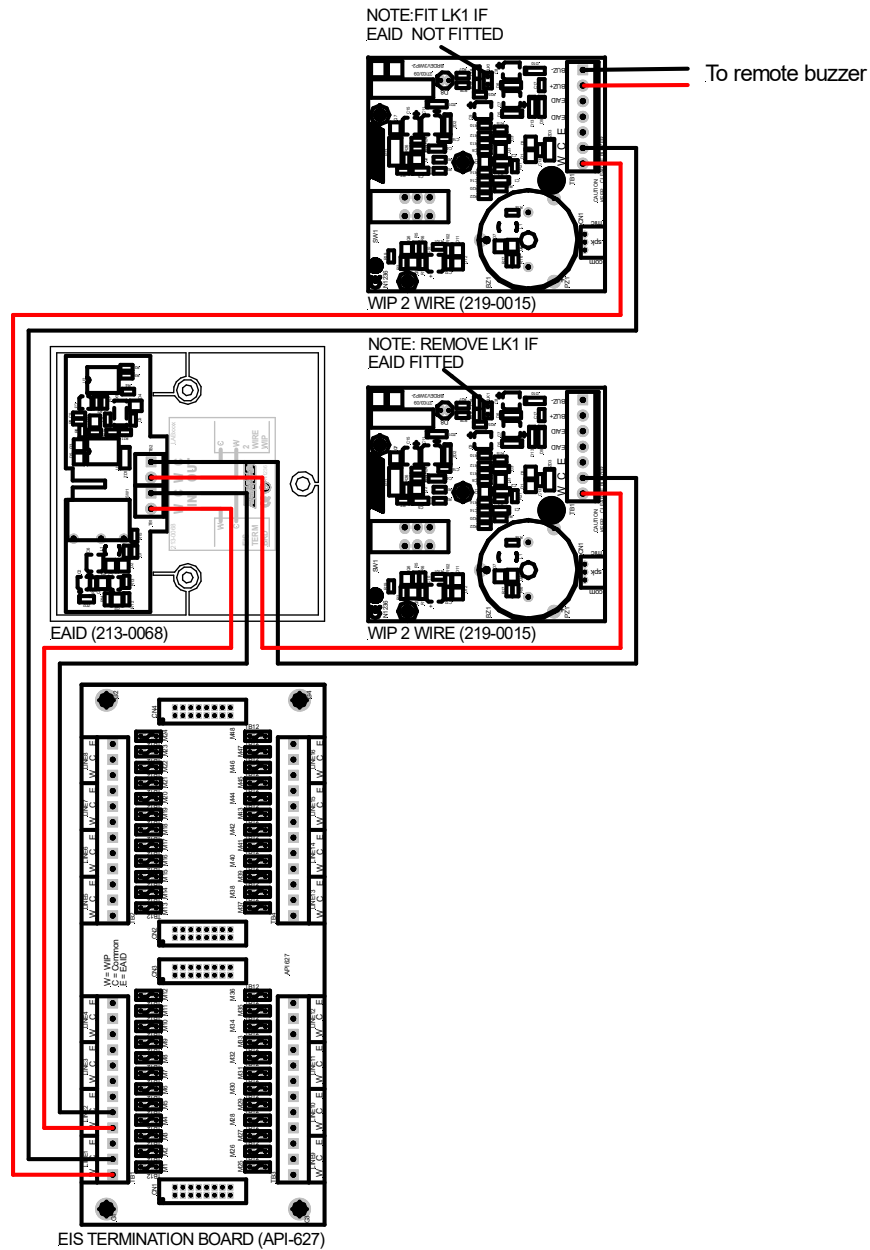

Figure 27: ECP to EAID to WIP Wiring
The time base is ten (10) seconds, i.e. the minimum time out possible is 10 seconds to a maximum of 10 minutes in 10 second increments. An eight position DIL switch located on the rear of the 302-4220 main CPU Board (refer Figure 27) is provided to select the required time out.